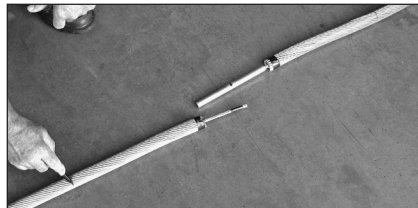

FIGURE 3: Re-mark the conductors after cleaning if needed.
3. Remark each conductor half the length of the aluminum sleeve, if the mark was removed during wire brushing. Prior to any strand cutting, tape the end of each conductor to help maintain the round contour (**Figure 3**).